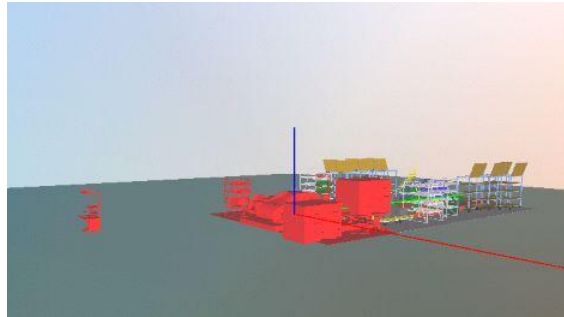

Figure 97: Shown Objects: Highlighted in Red
- 6) Click **OK** button. The objects are visible again in the graphic. *Please refer to the Figure 97.*